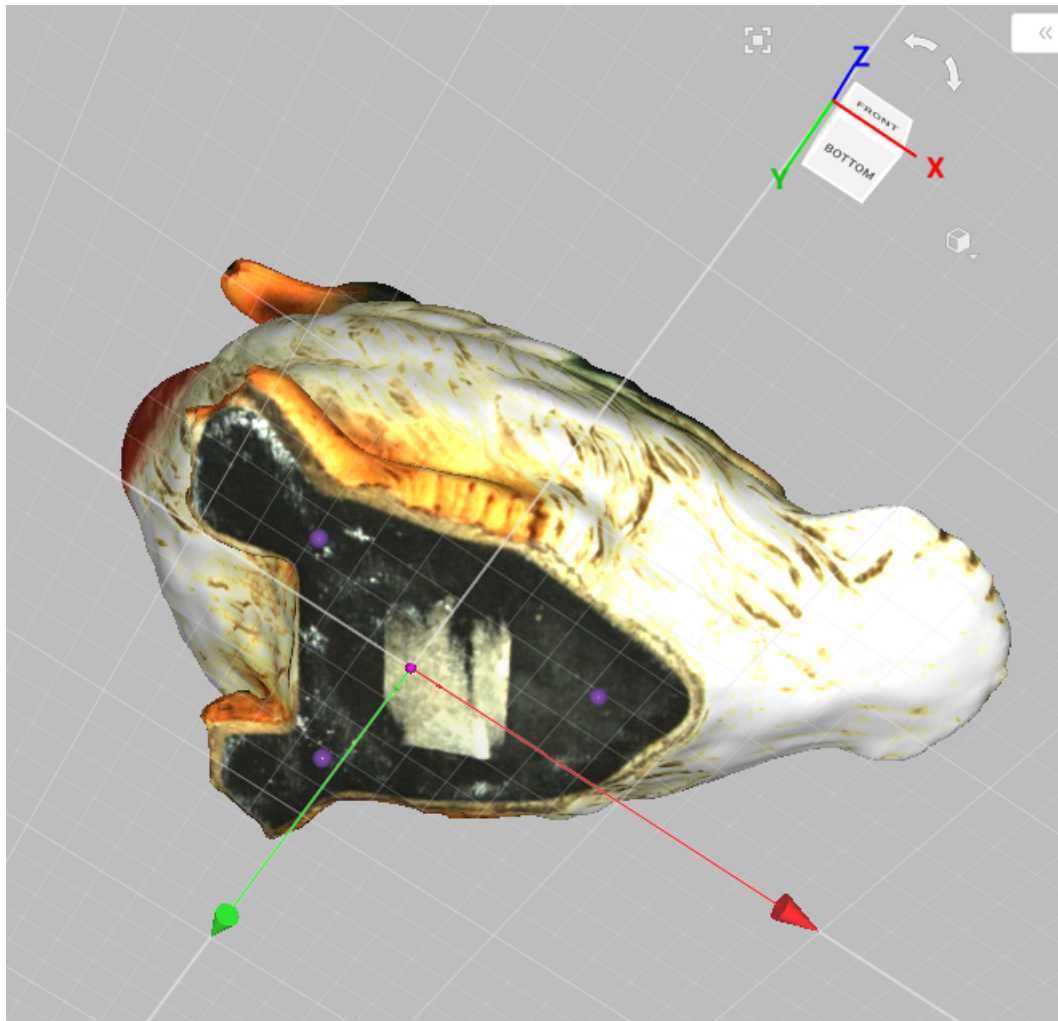

Figure 118: Positioning the model in the global coordinate system.
5. Use **LMB** to specify at least three points on the surface; the plane will automatically pass through their center of mass (see Figure 118). The following conditions will then apply: